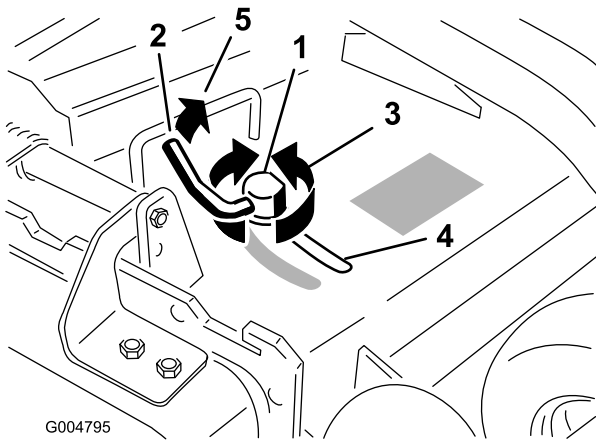

Figure 19
- To adjust the cam lock, swing the lever up to loosen the cam lock (Figure 19).
- Swing the lever back over to tighten the baffle and cam lock (Figure 19).